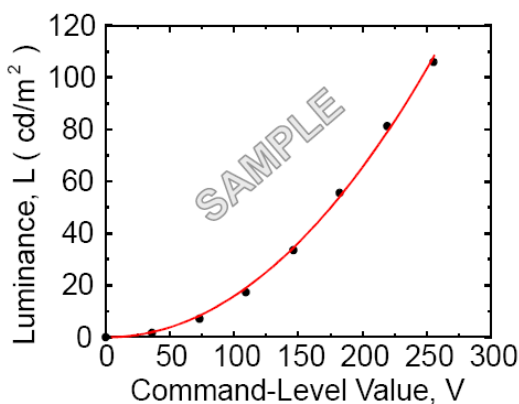
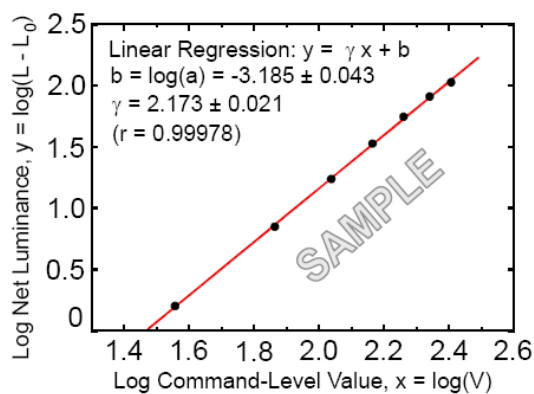

FIG. 11 Sample Luminance vs. gray scale (using a 256 bit gray scale)
FIG. 12 Sample Log-log plot of luminance vs. gray scale
7. GSR is the rate of gamma shift at up, down, left and right 60 degree viewing angle compare with center gamma. For more information see FIG 11 and FIG 12 (By EZ Contrast)
The GAMMA we calculate from the log-log representation (FIG. 11)